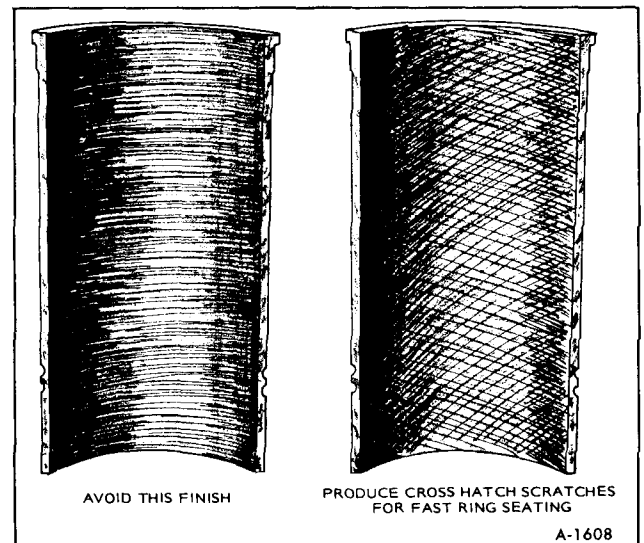

Figure 19—Crosshatching Cylinder Block
5. The cross hatch formed by the scratching of the stones should form an angle of 23° as shown in Figure 19. This can be achieved by moving the hone up and down in the cylinder about 40 cycles per minute.